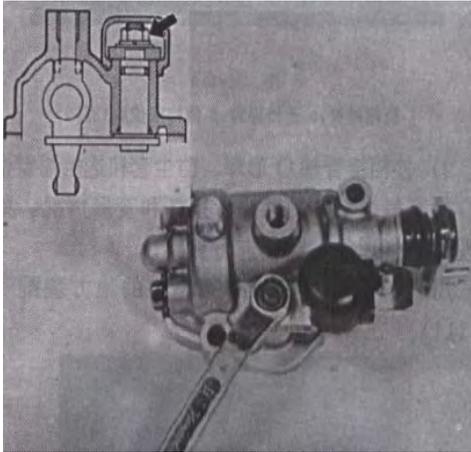

Fig 10-119
(4) Install gear select shaft and tighten select shaft nut to specified torque.(TABLE 10-12, FIG.10-119)